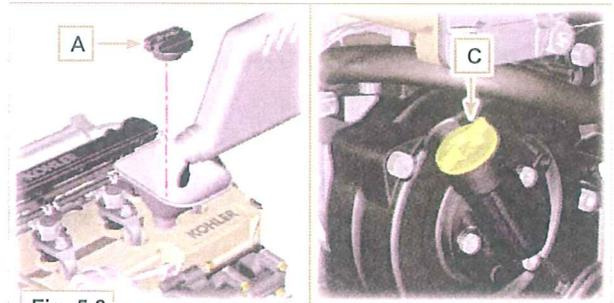

Fig. 5.2
- 4 - Re-tighten the cap A and/or C (Fig. 5.2).